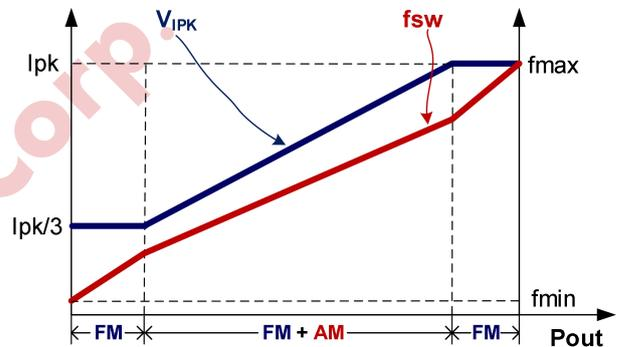

Fig.1
To meet the tight requirement of averaged system efficiency and no load power consumption, a hybrid of frequency modulation (FM) and amplitude modulation (AM) is adopted in KP3251X which is shown in the Fig 1.